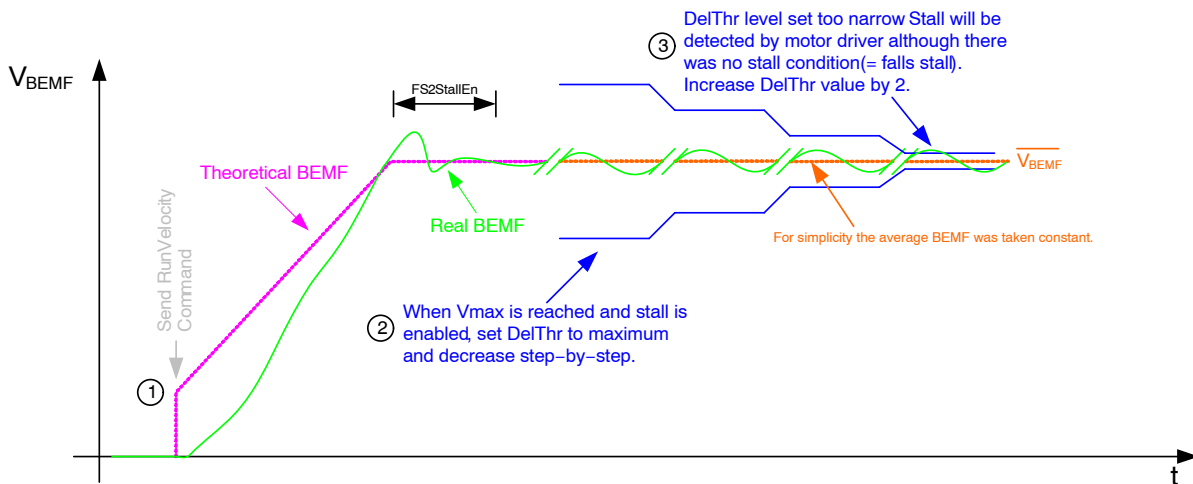

Figure 38. Defining DelThr for a Free Running Motor
- Step 4a: When spinning at maximum velocity (V_{max}), set DelThr to the maximum value. If the motor is still rotating, decrease DelThr. Do this until the motor stalls without hitting an end position (= falls stall). If falls stall is detected, the DelThr value is set too narrow. Increase the (hexadecimal) value by 2 (if possible) to have a good DelThr setting. See also Figure 38.